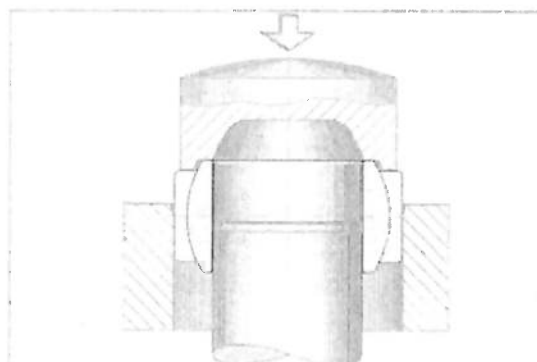

Fig. 4 - Simultaneous fitting on shaft and in housing
- If radial spherical plain bearings are fitted on the shaft and in a housing at the same time, fitting tools must be used which act simultaneously on the inner and outer ring (Figure 4).